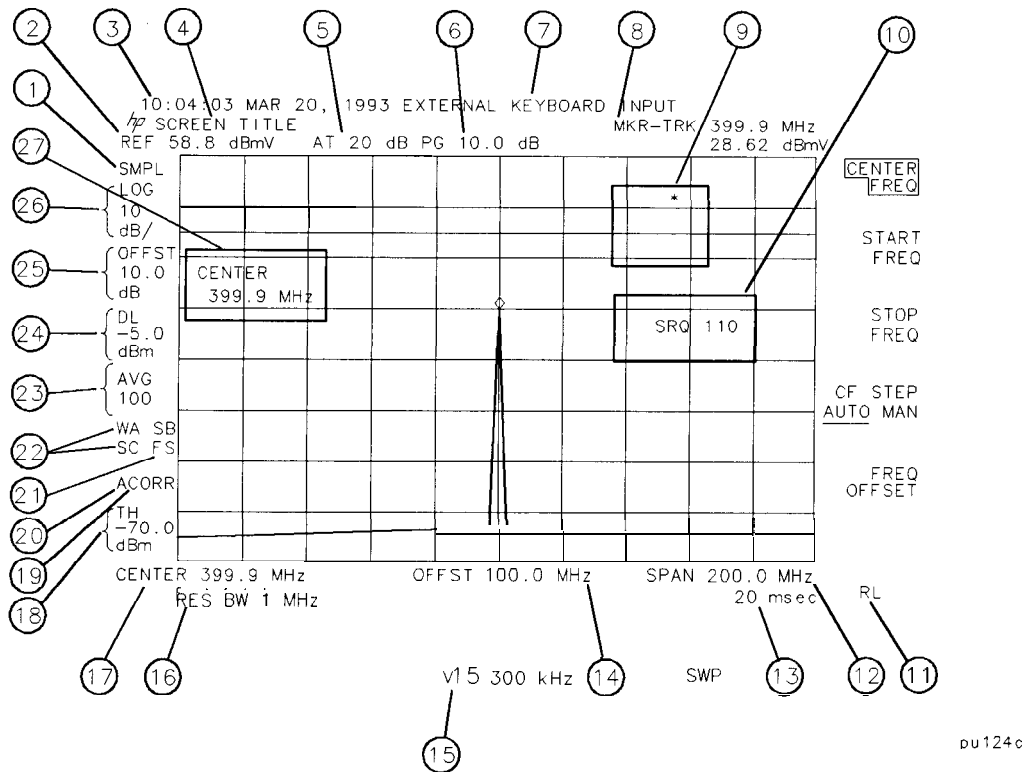

Figure 2-4. Screen Annotation
Figure 2-4 shows an example of the annotation that may appear on a cable TV analyzer screen. The screen annotation is referenced by numbers and is listed in Table 2-2. The function key column indicates which front-panel key or softkey activates the function related to the screen annotation. Refer to Chapter 6 for more information on a specific function key.
In Figure 2-4, item 21 refers to the trigger and sweep modes of the cable TV analyzer. The first letter ("F") indicates the cable TV analyzer is in free-run
Item 22 refers to the trace modes of the cable TV analyzer. The first letter (“W”) indicates that the cable TV analyzer is in clear-write mode. The second letter is “A,” representing trace A. The trace B trace mode is “SB”, indicating trace B (“B”) is in the store-blank mode (“S”). The trace mode annotation for trace C is displayed under the trace mode annotation of trace A. In Figure 2-4, the trace C trace mode is “SC”, indicating trace C (“C”) is in the store blank mode (“S”).